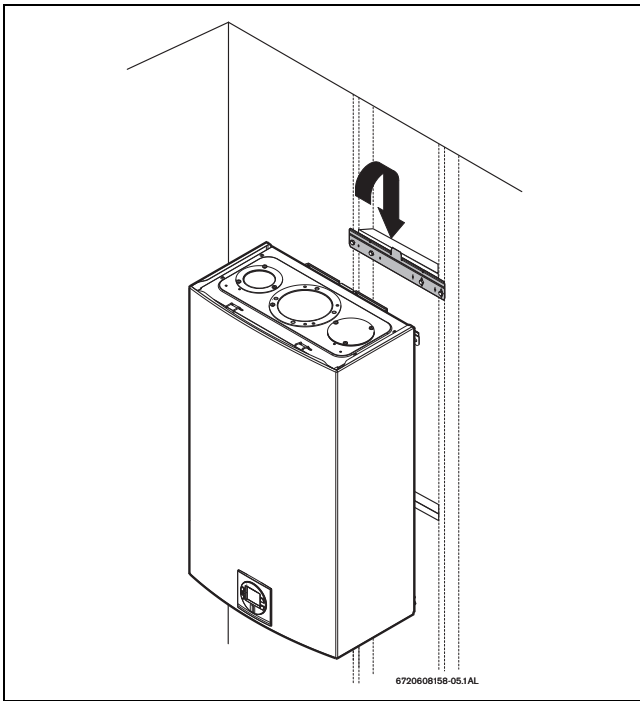

Fig. 31 Mounting the heater
- ▶ Hang the appliance on the bracket, see fig. 31, page 27.